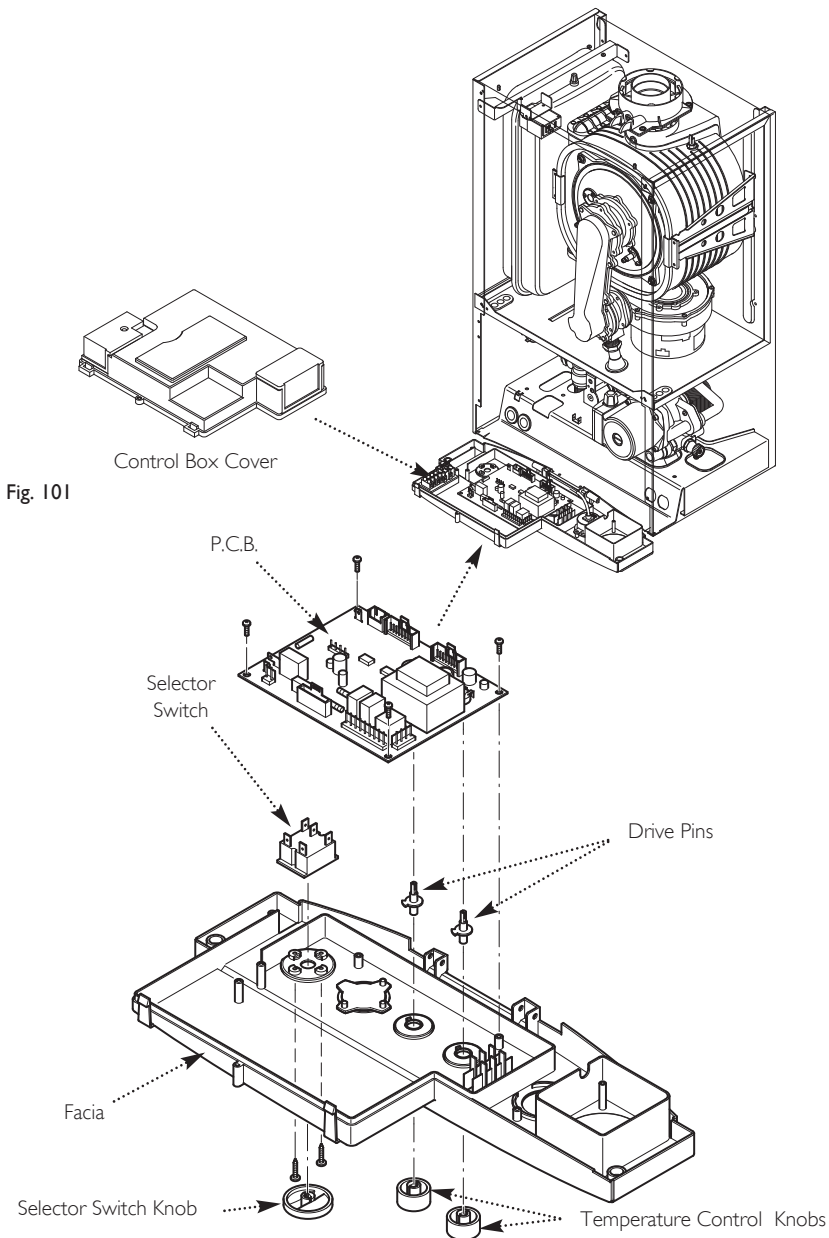

Fig. 102
14.22 P.C.B. (Fig. 102)
14.23 Selector Switch (Fig. 102)